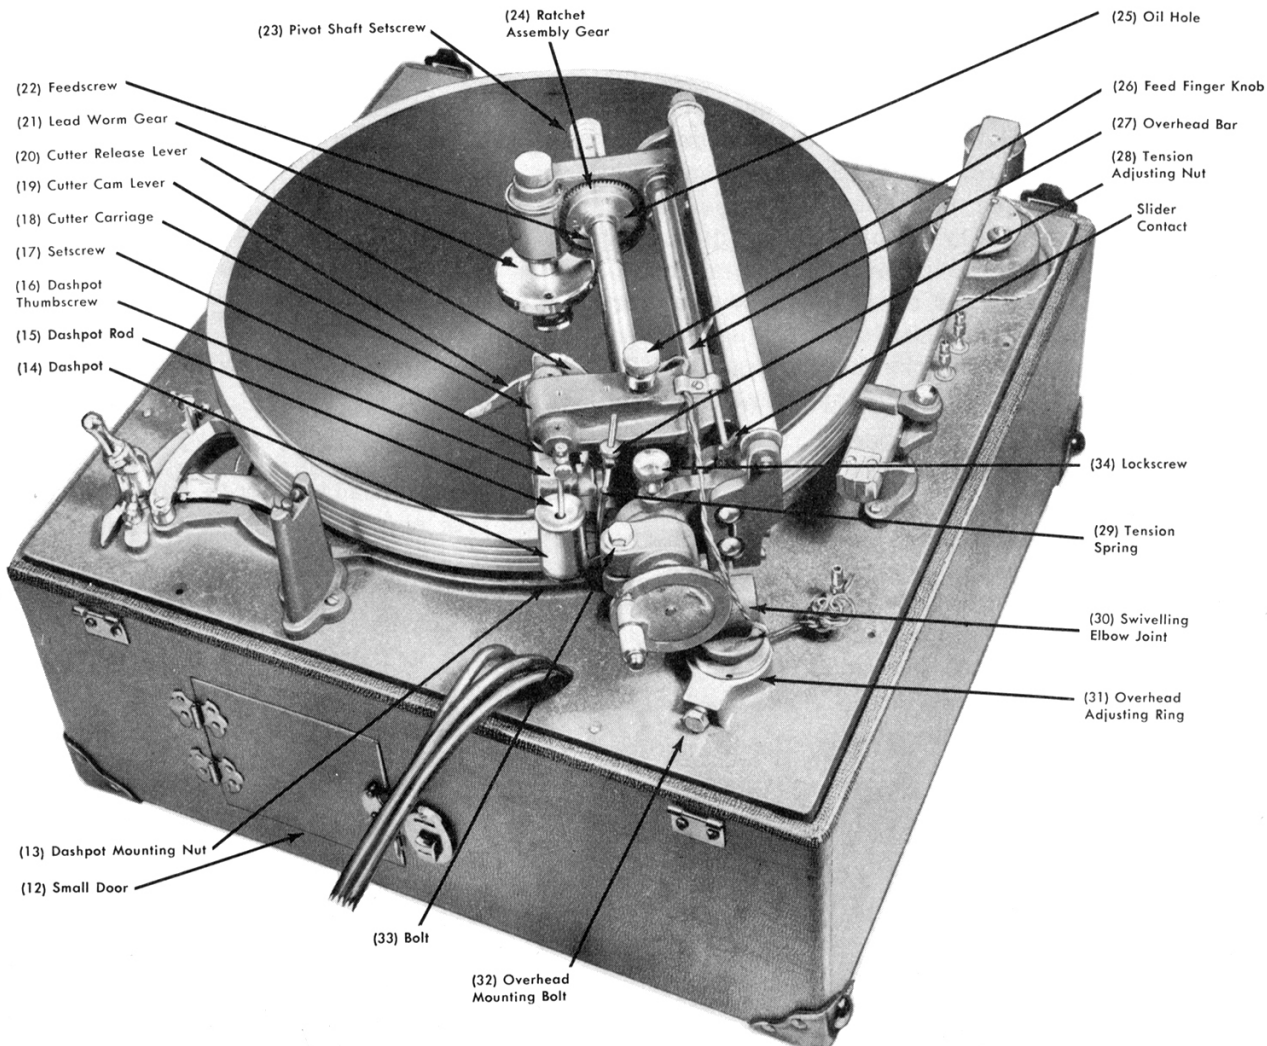

Figure 7. Top view of the 6N Turntable
- f. Tighten the overhead-mounting bolt (fig. 7) with the supplied wrench.
OVERHEAD ASSEMBLY (fig. 7)